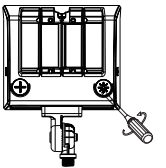

figure 6.4
- Step 3:After adjusting the required control function(figure 6.3), tighten the metal plug and the plastic plug clockwise(figure 6.4).